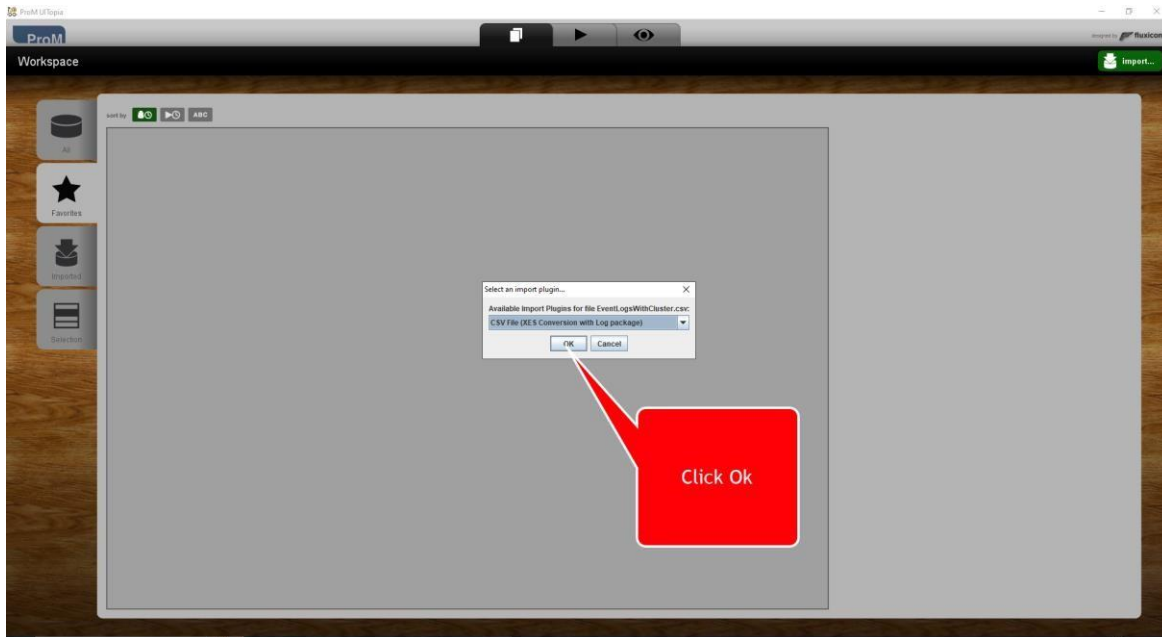

Figure 7 – Image showing how to select to import the file as a CSV file.
3. Another popup will appear asking which file type to import the data as, make sure “CSV File (XES Conversion with Log package)” (this should be the default value) is selected as seen in Figure 7.